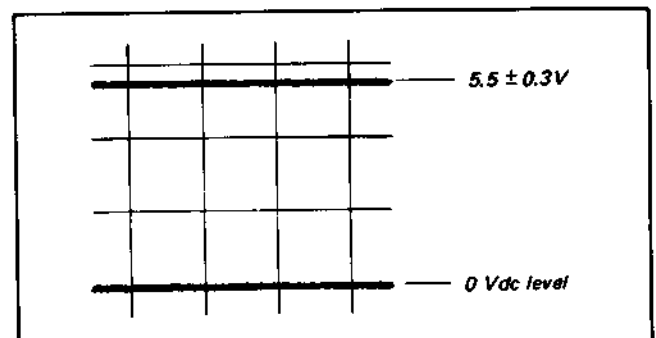

Fig. 4-6. Capstan free speed adjustment
- (1) Connect an oscilloscope to TP5 (pin 23 of IC001)
- (2) Record broadcast signal and adjust DC level to  $5.5V \pm 0.3V$  with RV1 (see Fig. 4-6).